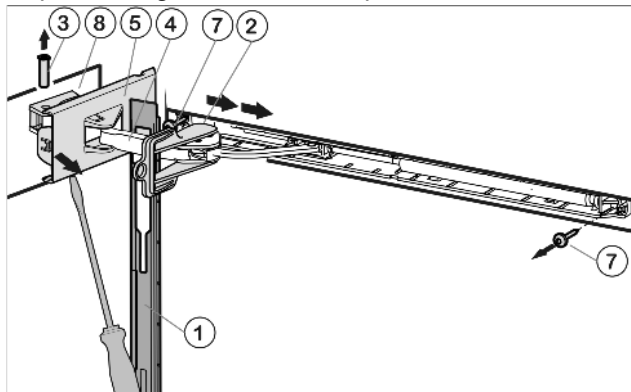

Fig. 12
- Push panel forwards over the damper bracket Fig. 12 (4) in the direction of the appliance.
- Engage locking device Fig. 12 (2) into place inside oblong hole.
- Unscrew cover that is on the hinge side Fig. 12 (5) until the first notch using a screwdriver.
- Push bolt Fig. 12 (3) out from below.
- Press damper bracket Fig. 12 (4) in the direction of the door.
- Completely loosen cover that is on the hinge side Fig. 12 (5) and remove.
- Remove panel Fig. 12 (1).
- Unscrew soft stop unit (2 x Torx 15) Fig. 12 (7).